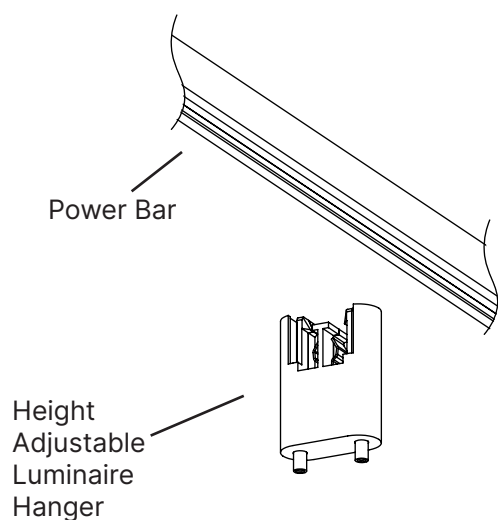
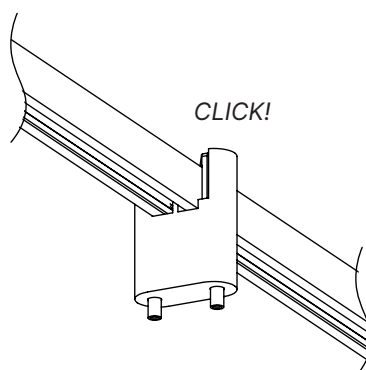

Fig. 15
Fig. 16
1. Align **Height Adjustable Luminaire Hanger** with **Power Bar** (Fig. 15) and press up on the bottom of the Hanger, while pressing down firmly on the top of the Power Bars until the Hanger clicks into place. (Fig. 16)